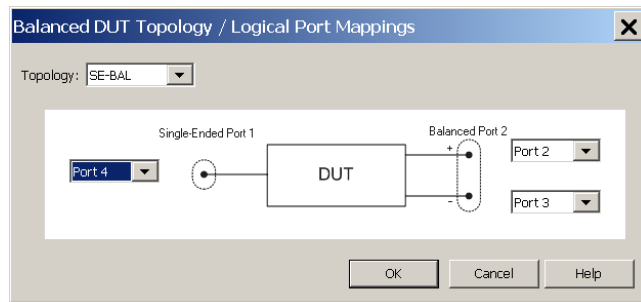

Figure 31 Logical Port Mapping for EO measurement
For EO measurement the single- ended (SE), logical port 1 is assigned to physical port 4 and the balanced (BAL), logical port 2 is assigned to physical ports 2 and 3 (see Figure 31).